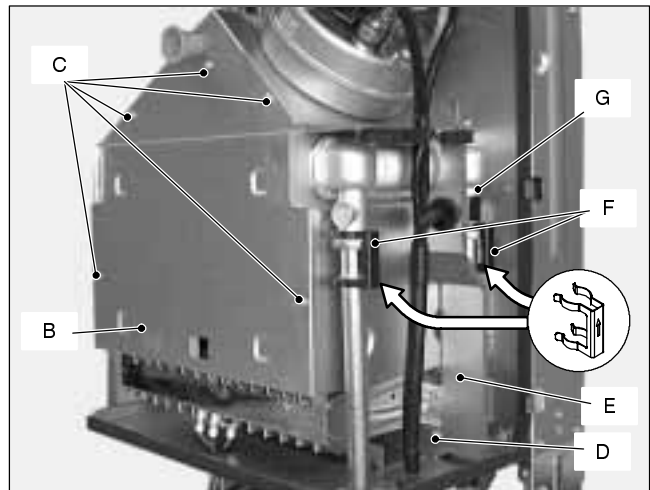

Fig. 11
- 3 Remove the combustion chamber lid *B* by unscrewing the screws *C* (Fig. 11).
- 10 Reassemble the boiler carrying out the removal operations in reverse order. **Fit the clips *F* with the arrow pointing upwards as illustrated in Fig. 11.**